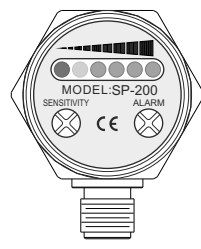

Fig. 5
SP is equipped with 6 LEDs for visual flow velocity monitoring. (See Fig.5)
- (1). Installing the SP on the flow piping.
- (2). Power ON SP and wait for at least 15 seconds for initial warm up.
- (3). a. For open collector output type : Removing two screws of sensitivity and alarm. (See Fig.5)
- (4). Adjust the sensitivity setting counter-clockwise to minimum.
- (5). Adjusting the flow velocity to the minimum acceptable level.
- (6). Adjust the alarm setting until yellow LED and three green LEDs lit .
- (7). Slowly adjust alarm setting clockwise until yellow LED and one green LED lit.
- (8). Slowly decreasing the flow velocity until red LED lit to check the flow velocity of alarm engaged.
- (9). If the velocity deviation between yellow and red LEDs is too large, then adjust the sensitivity setting clockwise to increase sensitivity. Do step (5),(6),(7) again.
- (10). a. For open collector output type : Putting two screws of sensitivity and alarm back.
- (11). SP220 Economy Type can not set sensitivity and alarm.